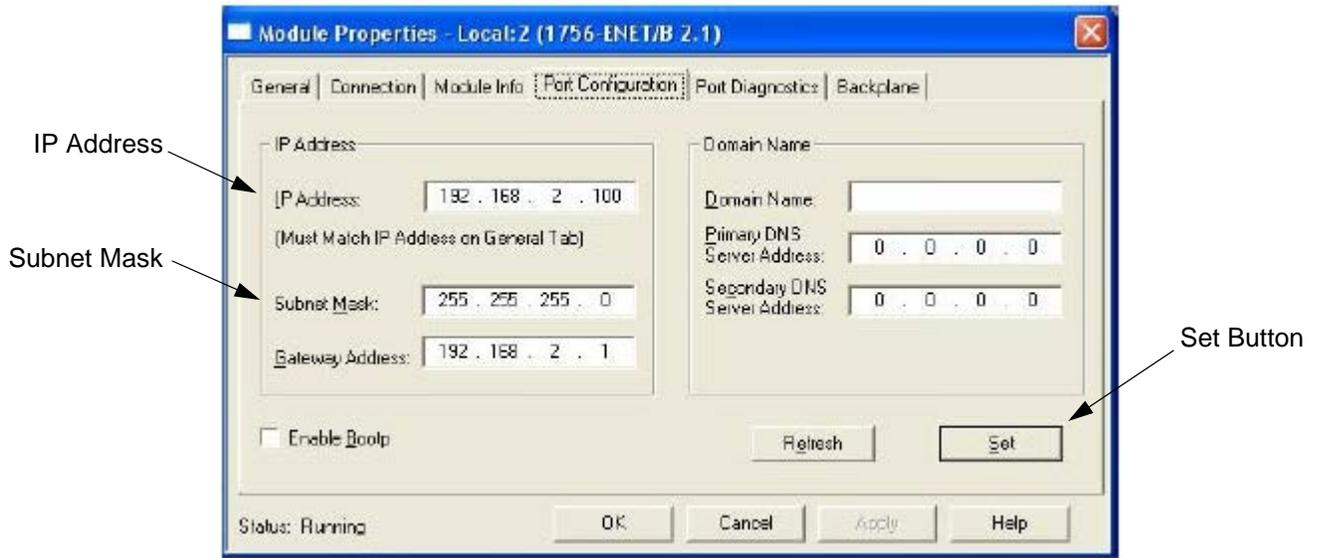

FIG. 71. Port Configuration Window
- h. Select the Port Configuration Tab from the Module Properties window. See FIG. 71.